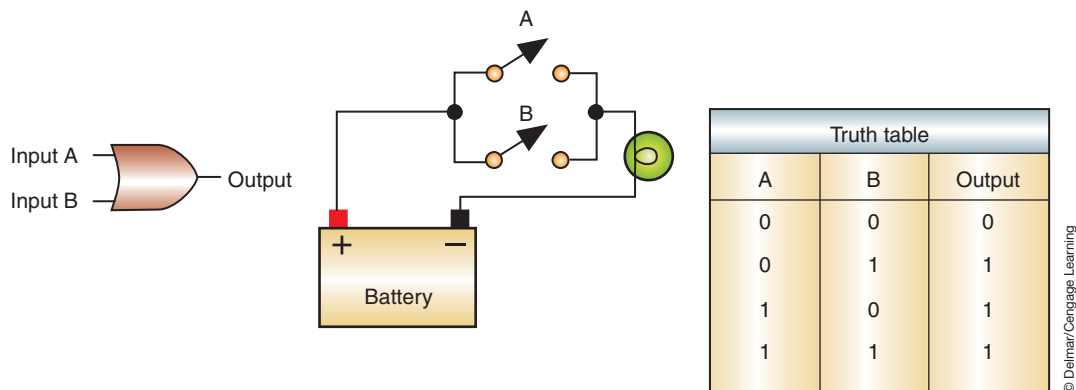

FIGURE 9-14 OR gate symbol and truth table. The OR gate is similar to parallel switches.
3. **OR gate:** The OR gate operates similarly to two switches that are wired in parallel to a light (Figure 9-14). If switch A *or* B is closed, the light will turn on. A high signal to either input will result in a high output.